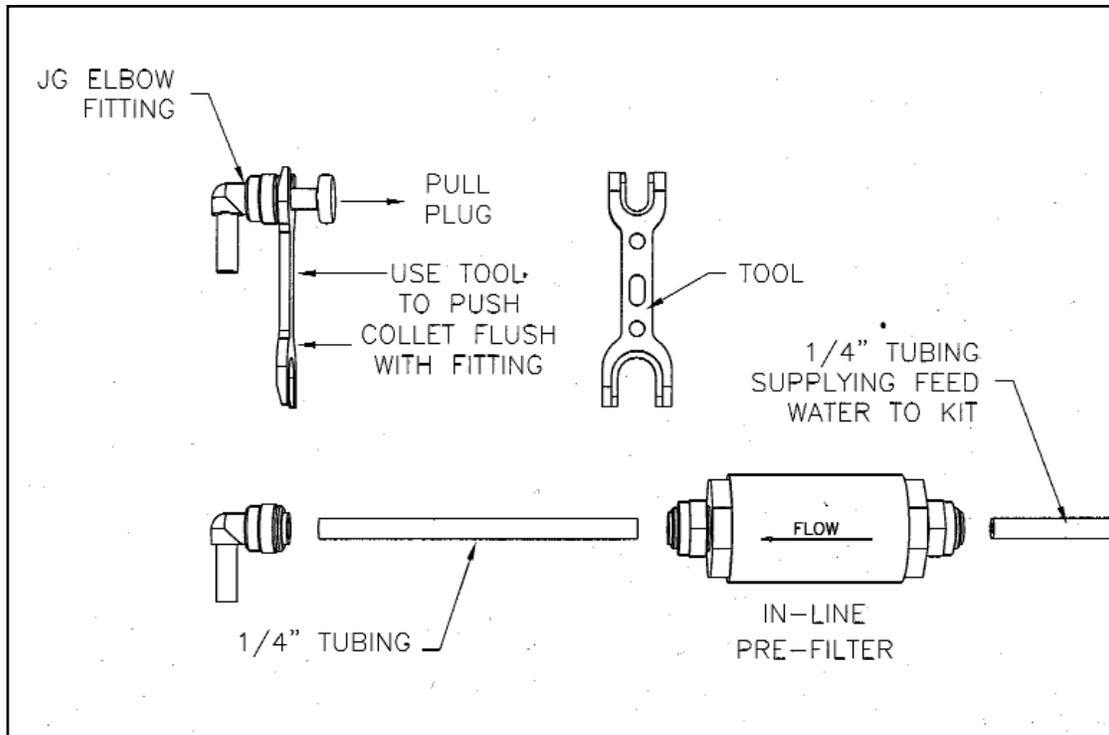

Figure 3.4
1. Remove the plug from the tee fitting, located at the center of the lower compartment by holding the collet flush to fitting using the plastic tool provided, and pulling the plug out (Figure 3.4, Removing Plug from Inlet Filter).
2. After the plug is removed, insert the 1/4-inch OD tubing and attach the inline pre-filter provided with the kit (Figure 3.4).